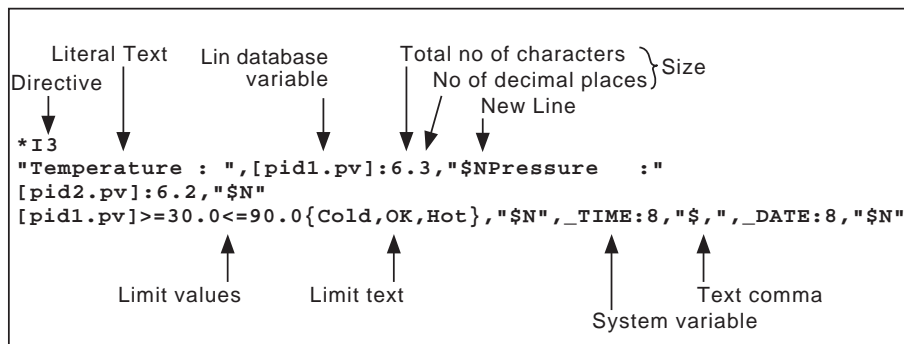

Figure 5.9.1a Sample .UYF file
An example of a .UYF file is given in figure 5.9.1a, and the resulting output in 5.9.1b. The various highlighted items are discussed below.
Limit values/Limit text	<p>As shown in figure 5.9.1a, it is possible for a status line to be printed out according to the value of the variable. In the example given, the entry :</p> <pre>[PID1.pv]>=30.0<=90.0 {Cold,OK,Hot}</pre> <p>means that if the value of PID1 is 30.0 or more, but less than or equal to 90.0, the word 'OK' is printed. If the value is below 30.0 the word 'Cold' is printed, and if the value is above 90.0, the word 'Hot' is printed.</p> <p>It is possible to use alarm limits as the limit values, and also to use dictionary entries for the limit text e.g.</p> <pre>[PID1.PV]>=[Pid.LL_SP]<=[PID1.HL_SP]{#U10,#U11,#U14}</pre> <p>would print the text string held in item 11 of the User dictionary if the value of PID1 lies between the limits. If the value lies below the lower limit, the message held in U10 is printed, and if the value lies above the upper limit, the text held in U14 is printed.</p> <p>For Boolean variables, which are either false or true, the format is: [Variable]{,false text,true text}. For example, [Pid7.mode]{,,Manual} would cause the word Manual to be printed when [Pid7.mode] becomes 'True', but nothing will be printed when the value becomes 'False'.</p>
System variables	<p>System variables (some of which are listed in table 5.9.1.1b) can be used to include system information in the report. In the example of Figure 5.9.1a, the items _TIME and _DATE are included to cause the system time and date to be included in the report. As with other variables, a suitable size must be allocated to the items, for formatting purposes. See the User Screen Editor handbook (HA260749U005) for a complete list.</p>